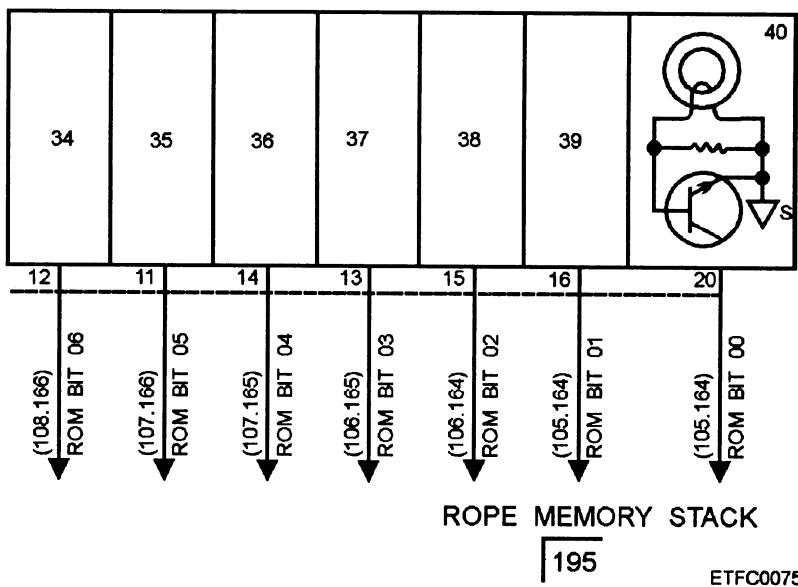

Figure 6-36.—Hardwired magnetic ROM.
- Hardwired (fig. 6-36)
- Magnetic (fig. 6-36)